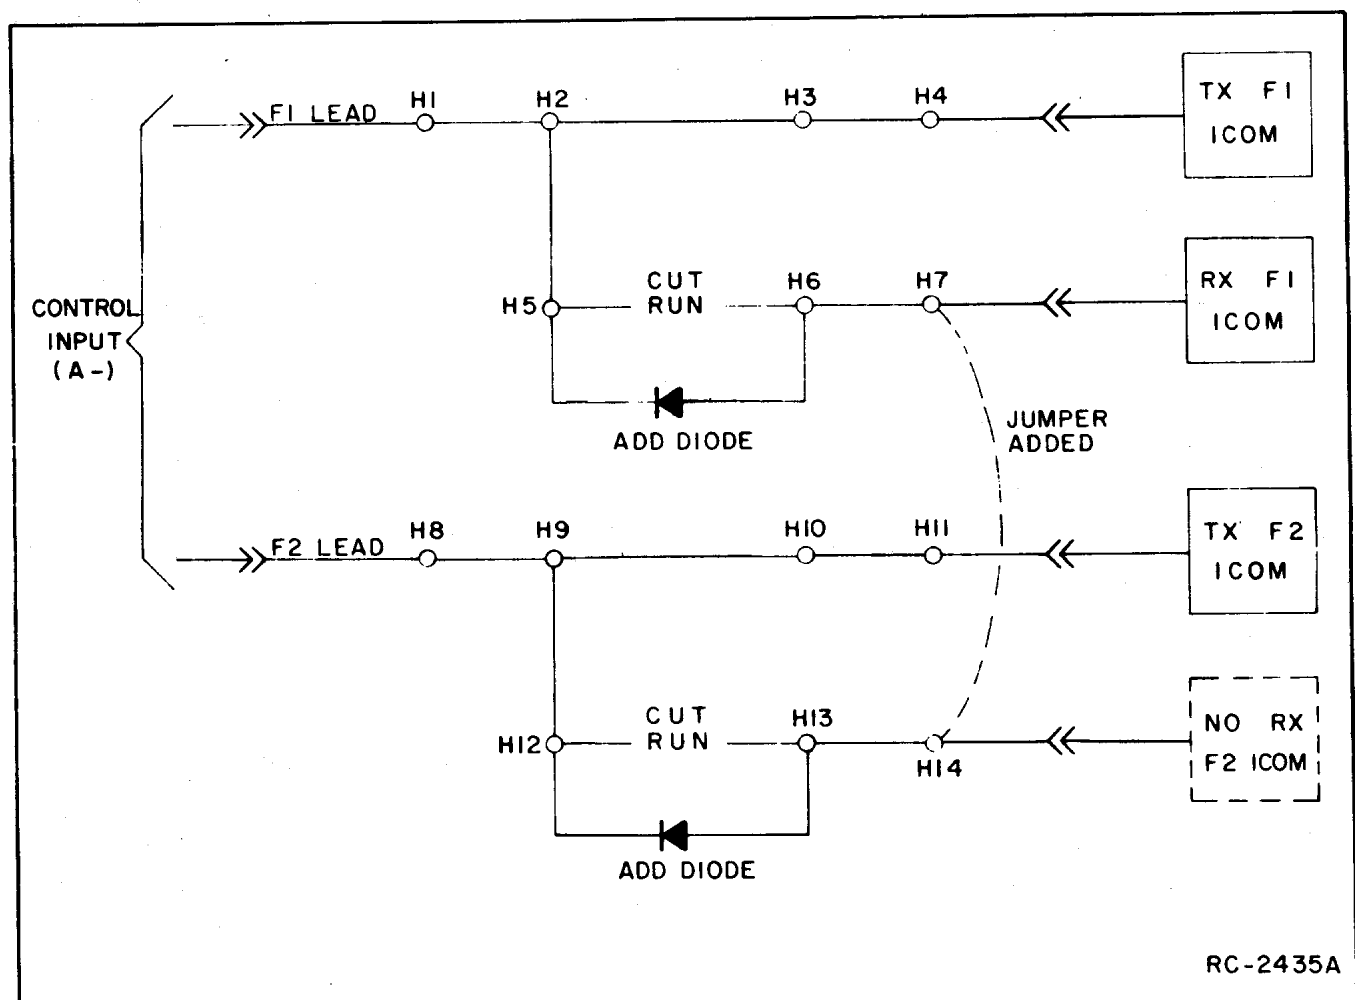

Figure 5 - Repeating ICOMs
1. Cut the run between H5 and H6, and H12 and H13 (see Figure 5).